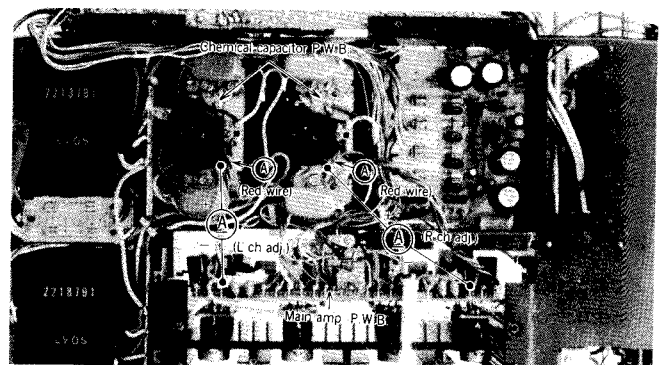

Fig. 8
Adjust the idle current after removing the cover and bottom plate, applying no signal and leaving the SPEAKERS OFF switch released (□) position. Adjust Lch, disconnecting lead wire (A) (red) shown in Fig. 8 from the terminal on the main amplifier PWB, and connecting the positive ⊕ lead of the DC ammeter to the terminal on the chemical capacitor PWB, and the negative ⊖ to the terminal on the main amplifier PWB. (same for Rch). Next, adjust R719L or R719R on the main amp. PWB, so that the ammeter reading is 300mA. Re-connect the leads wire after adjustment.